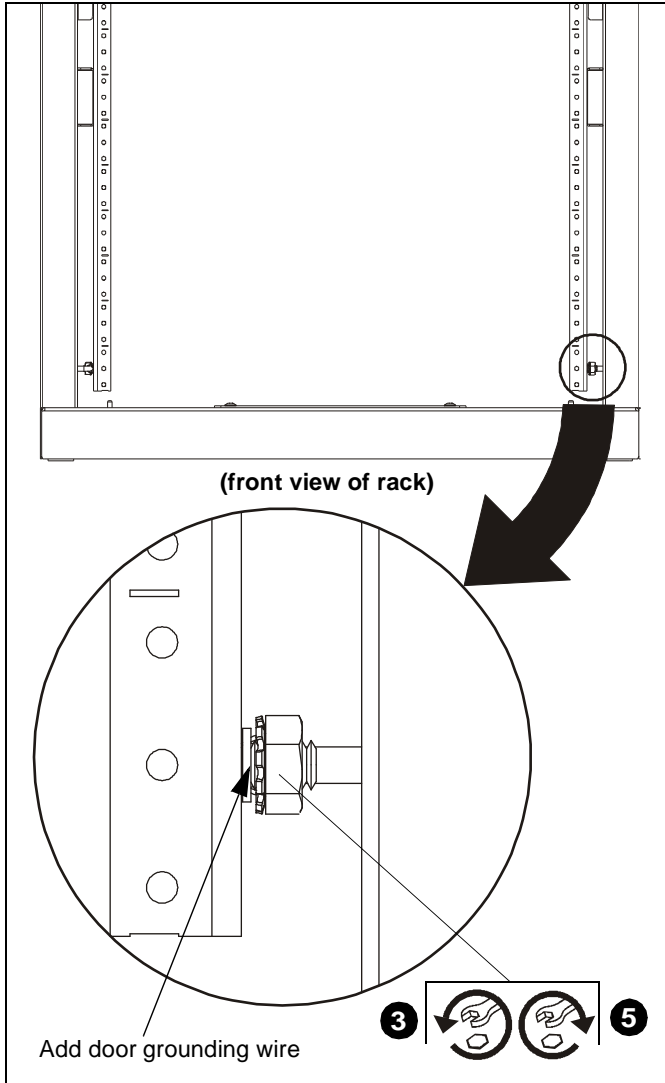

Figure 4
4. Remove and save nut from the grounding lug on rack side rail. (See Figure 4)
5. Attach grounding wire from door to the grounding lug. (See Figure 4)
6. Replace and tighten nut onto grounding lug. (See Figure 4)